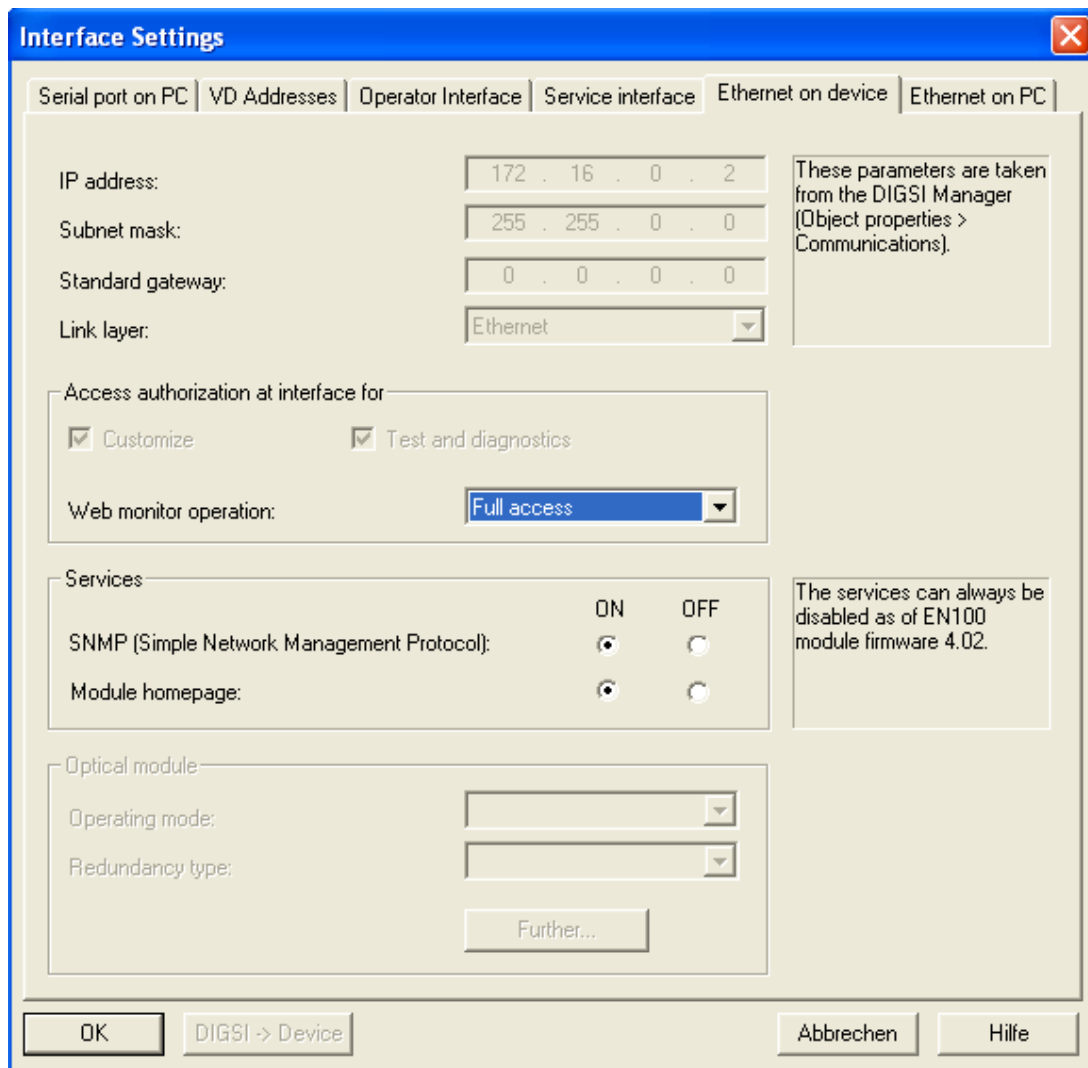

Figure 3-3 DIGSI device interface settings necessary for the firmware update over the Ethernet interface
- A firmware reboot and activation for the module firmware may be possible over Web Monitor on EN100 module homepage. Please verify with the DIGSI 4 setting, that Web monitor have read and write access (Required option is **Full access**) and the Module homepage must be ON. Required settings are shown in Figure 3-3. Activating the FPGA – update requires to switch the device OFF for min. 20 seconds. After the restart of the device the FPGA – update will be activated.